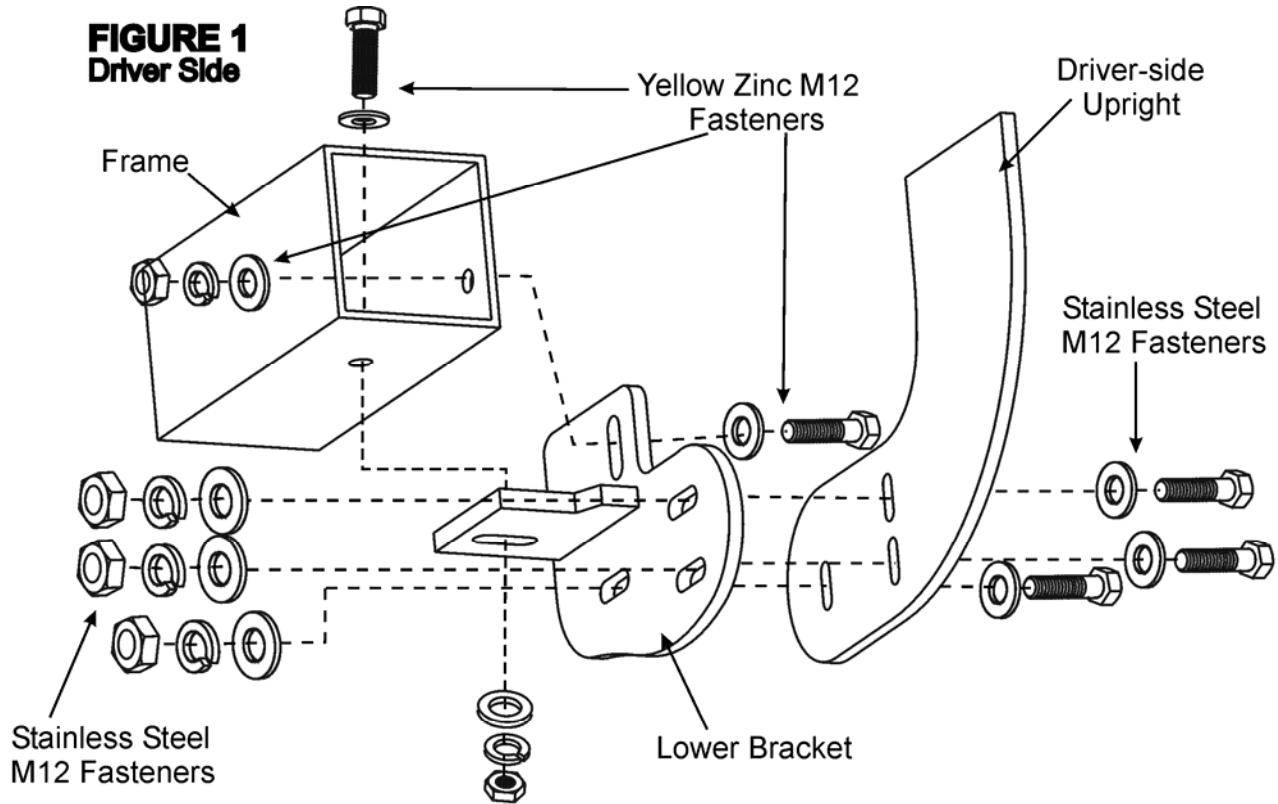

FIGURE 2 View from top
5. Install upper brackets as shown in figure 2. This can be accomplished without removing the grille but the grille should be removed if more room is required.